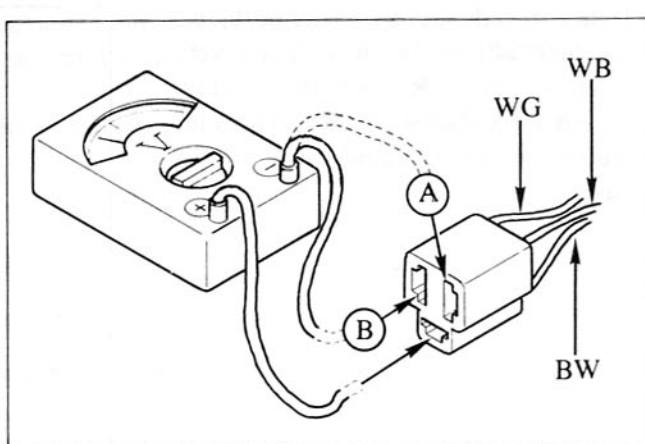

Figure 2
3. Connect the voltmeter to the throttle sensor checking connector (Green) and check the voltage as shown. (Figure 2)